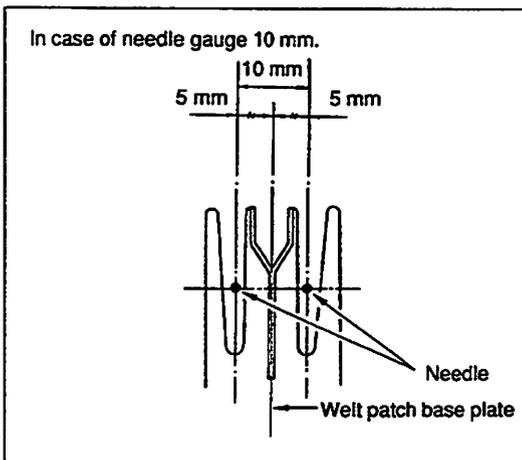

Fig. 30
2. The correct lowest position of the binder is obtained when the binder comes down to reach the position just in the middle of the two needles and that both needles do not come in contact with the welt patch base plate as shown in Fig. 30.